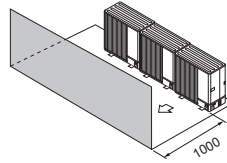

Fig. 2-14
- (3) Obstruction or closed surface at front only (Fig. 2-14)